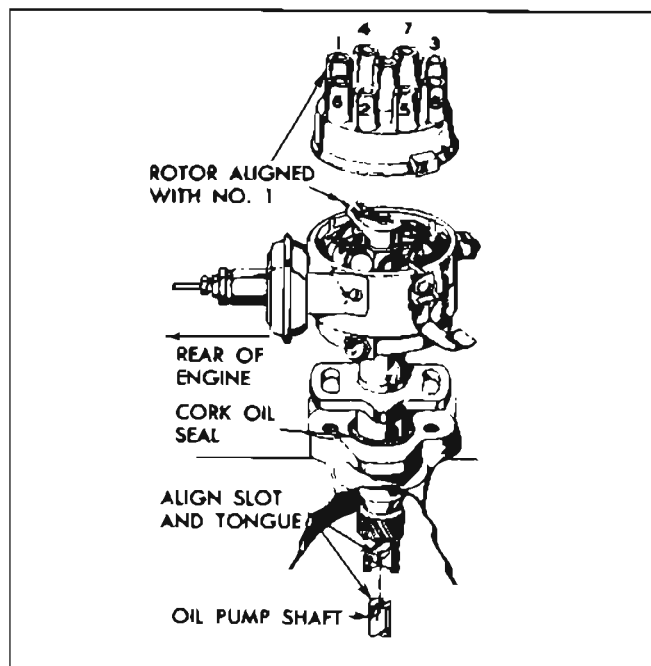

Figure 10-78—Position of Distributor for Installation
4. Rotate oil pump shaft with screw driver to align slot in shaft with tongue on lower end of distributor shaft. Install distributor in crankcase with vacuum control pointing to rear of engine and approximately parallel to side of crankcase. See figure 10-78.